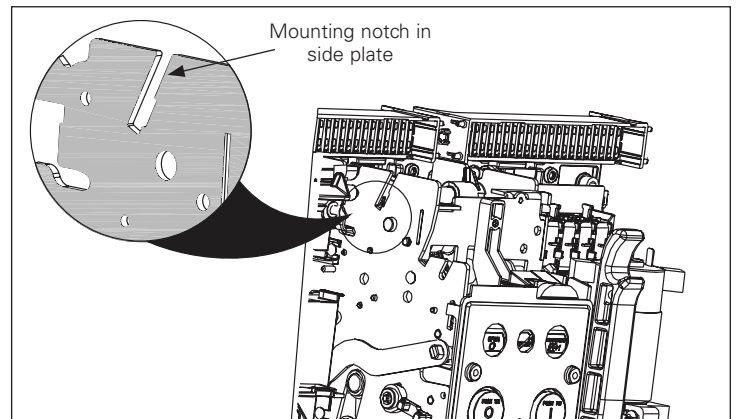

Figure 14. Step 5.
Step 5: Note the small locking tab (see Figure 14) that locks the pop-out indicator into its mounted position in the mounting notch in the side plate.